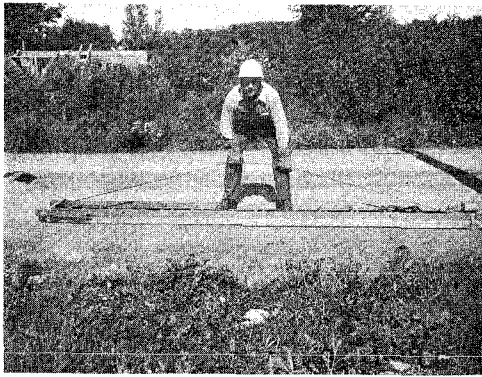

Fig. 40 — Testing Ladder Rope
13.04 Excessively worn, seriously frayed or rotted ladder ropes. Test the rope by laying the ladder on the ground. Make sure that the rope is well tied to a lower rung. Stand on two rungs near the centre of the ladder. Grab one side of the rope and pull on it, as hard as you can. (See Fig. 40) If the rope passes this test, untwist it every 3 feet and look for signs of rotting, mildew and decay.